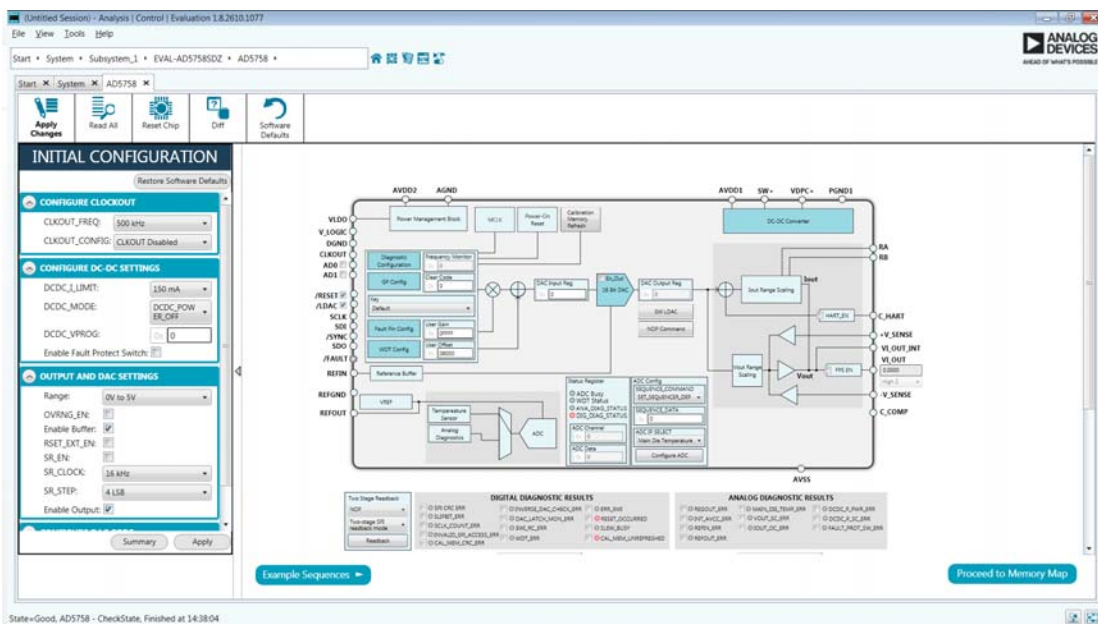

Figure 7. AD5758 Block Diagram in the ACE Software
7. Double-click EVAL-AD5758SDZ to open the **AD5758** block diagram (see Figure 7). The **INITIAL CONFIGURATION** menu appears on the left. This location is where several register settings can be configured and are written to the device in the appropriate order. The **DIG\_DIAG\_STATUS**, **RESET\_OCCURED**, and **CAL\_MEM\_UNREFRESHEDLED** indicators are highlighted red by default. Writing the initial configuration values clears these error flags. If the device is power cycled, or if the USB cable is disconnected and reconnected while the **ACE** software is open, contact with the EVAL-AD5758SDZ may be lost. If contact is lost, click the **System** tab. Then, click the **USB** symbol on the EVAL-AD5758SDZ, and then click **Acquire** to communicate with the EVAL-AD5758SDZ again.